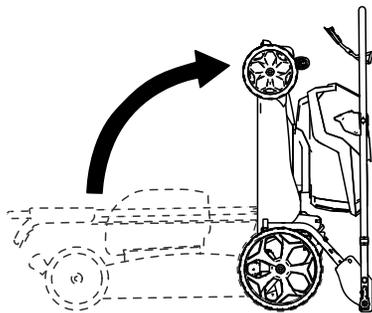

Figure 17
5. Fold the handle forward to the fully forward position as shown in Figure 17.
6. Lift the front of the machine by the handle and move it into a storage space (Figure 17).